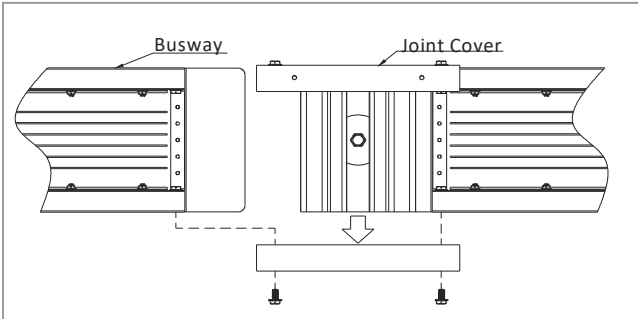

Figure 6.1. Top view
1. Remove both joint cover, shown in Figure 6.1 , 2. Aligned the busway to be joined by matching up arrow. If necessary, loosen the joint bolt.